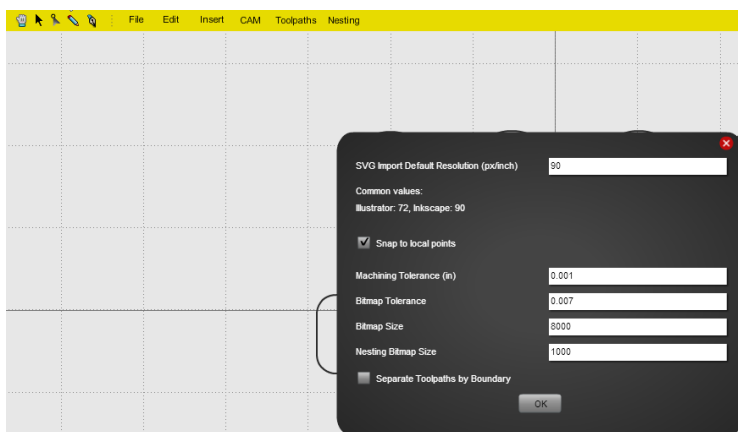

Figure 6-8. *MakerCAM SVG import settings*
2. Change "SVG Default Import Resolution (px/in)" to 90, as shown in Figure 6-8.